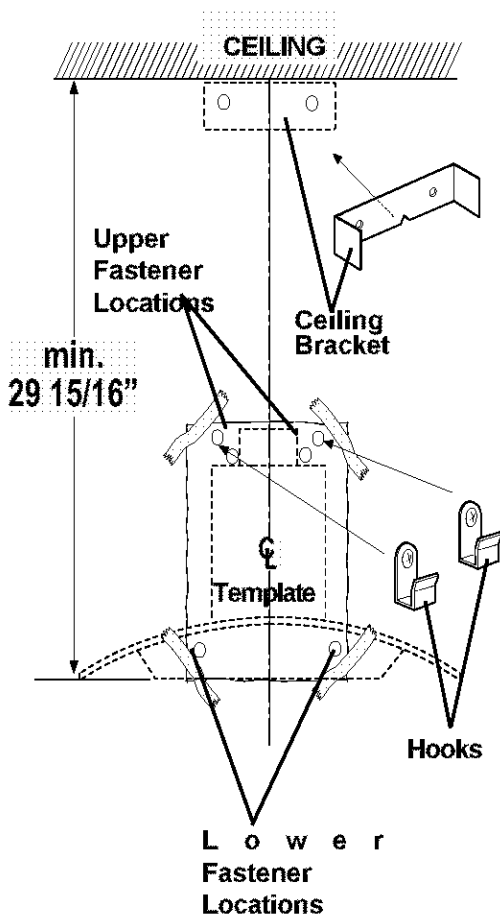

Figure 2
3. Tape template, matching center-line and hood bottom as shown in **Fig. 2**. Distance from bottom of template to the ceiling must be minimum 29 15/16".